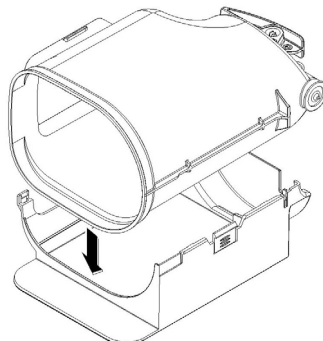

figure 11
- 1 Place the right-hand part of the Re-Cover on a surface. Place the container inside it (see figure 11)